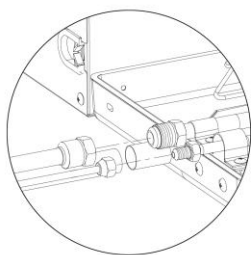

Fig. 15
(1) Remove pipe cover and pipe plug.
(2) Direct the flared part of copper pipe to the center of screwed joint. Twist on the flared nut tightly by hand, as in Fig.15. (Make sure indoor pipe is correctly connected. Improper location of the center will prevent flared nut from being securely twisted. Thread of nut will get damaged if the flared nut is twisted forcibly.)